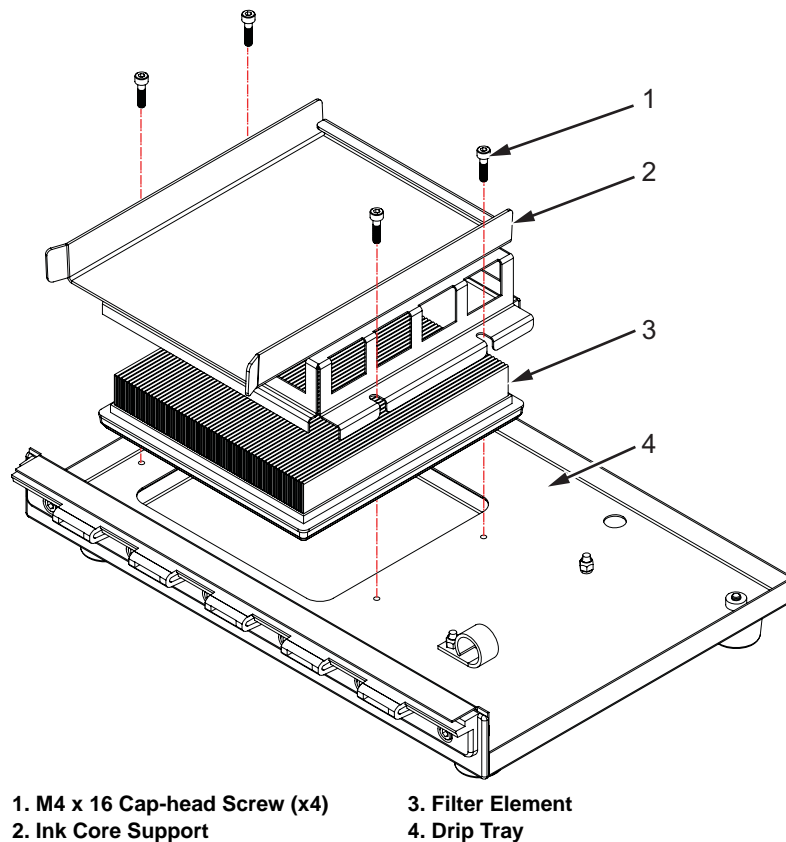

Figure 8-4. Floor Filter - IP65
- 1 Loosen the four M4 x 16 cap-head screws (item 1, Figure 8-4 on page 8-4) and remove the screws.
- 2 Detach the ink core support channel (item 2).
- 3 Remove the six screws, and lift the filter clamp (item 4).
- 4 Remove the filter element (item 5) from the filter tray (item 6).